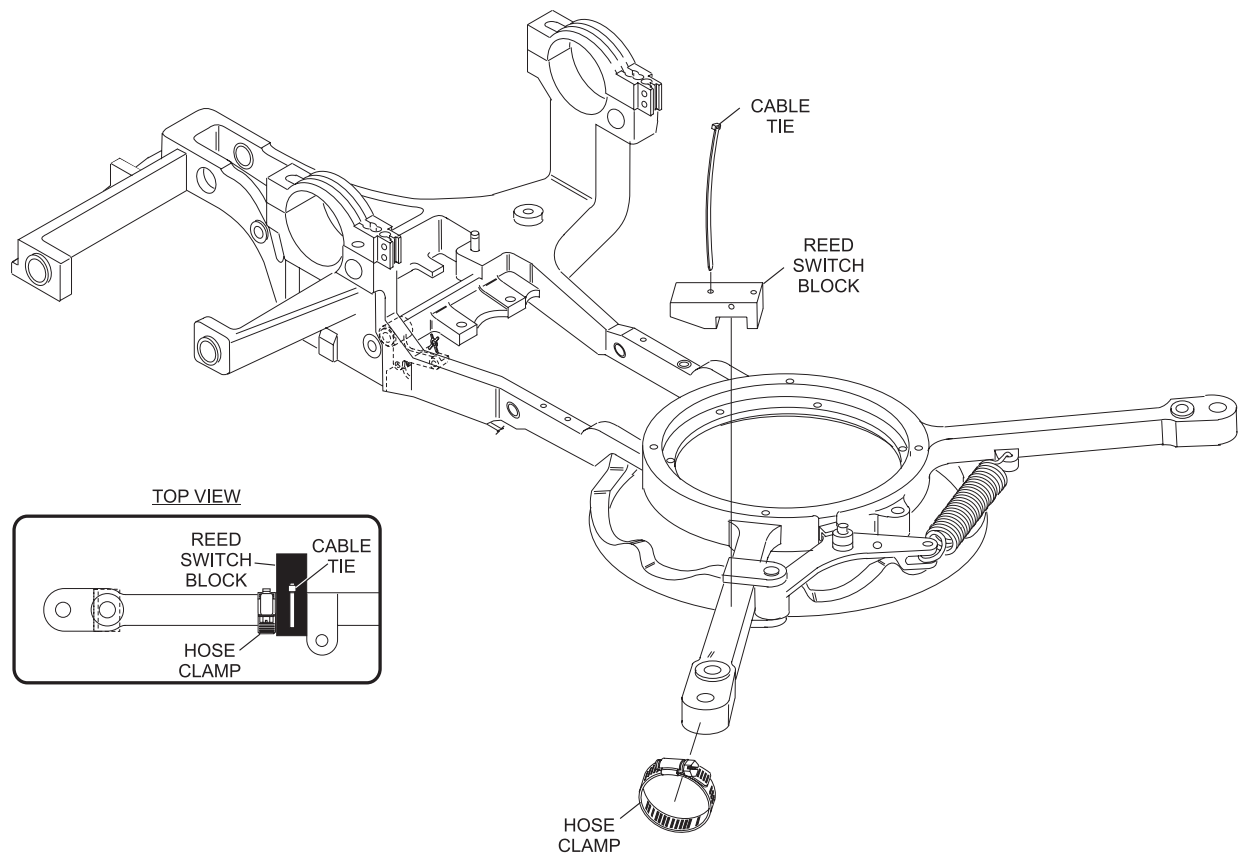

Figure 3
1. With the Reed switch block angled edge facing the rear of the pinsetter, the cut out of the block slides over the turret frame and should be positioned against the frame mounting the turret release lever. Secure the Reed switch block with a cable tie. Fasten the clamp around turret frame arm and against the Reed switch block to prevent it from “walking”. Route the Reed switch wires along the top of the turret frame and secure with a cable tie. Some slack should be left in the cable to allow for turret movement during a jam. Refer to *Figure 3*.